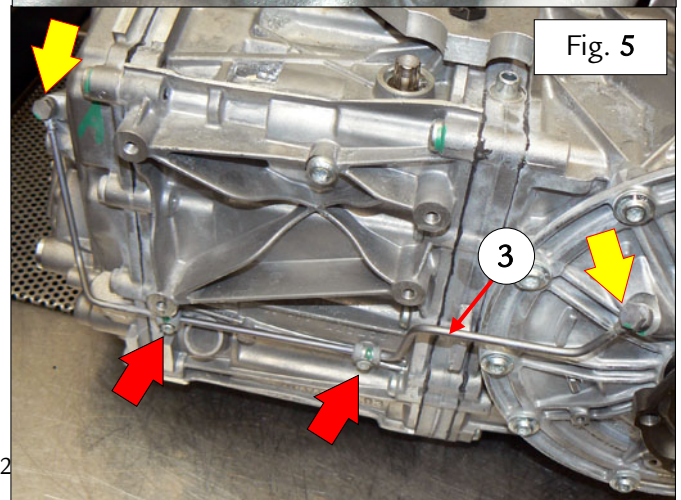

Fig. 5
- Remove the front flange (2) from the connector casing using a rubber mallet – Fig. 5.
- Undo the unions indicated by the yellow arrows then retrieve the relative seals – Fig. 5.
- Undo the screws on the clamps indicated by the red arrows then remove the E-DIFF pipe (3) – Fig. 5.
- Remove the E-DIFF pipe (3) from the vehicle, taking particular care not to bend or damage the pipe – Fig. 5
- Remove the hydraulic clutch system oil breather plug indicated – Fig. 5.